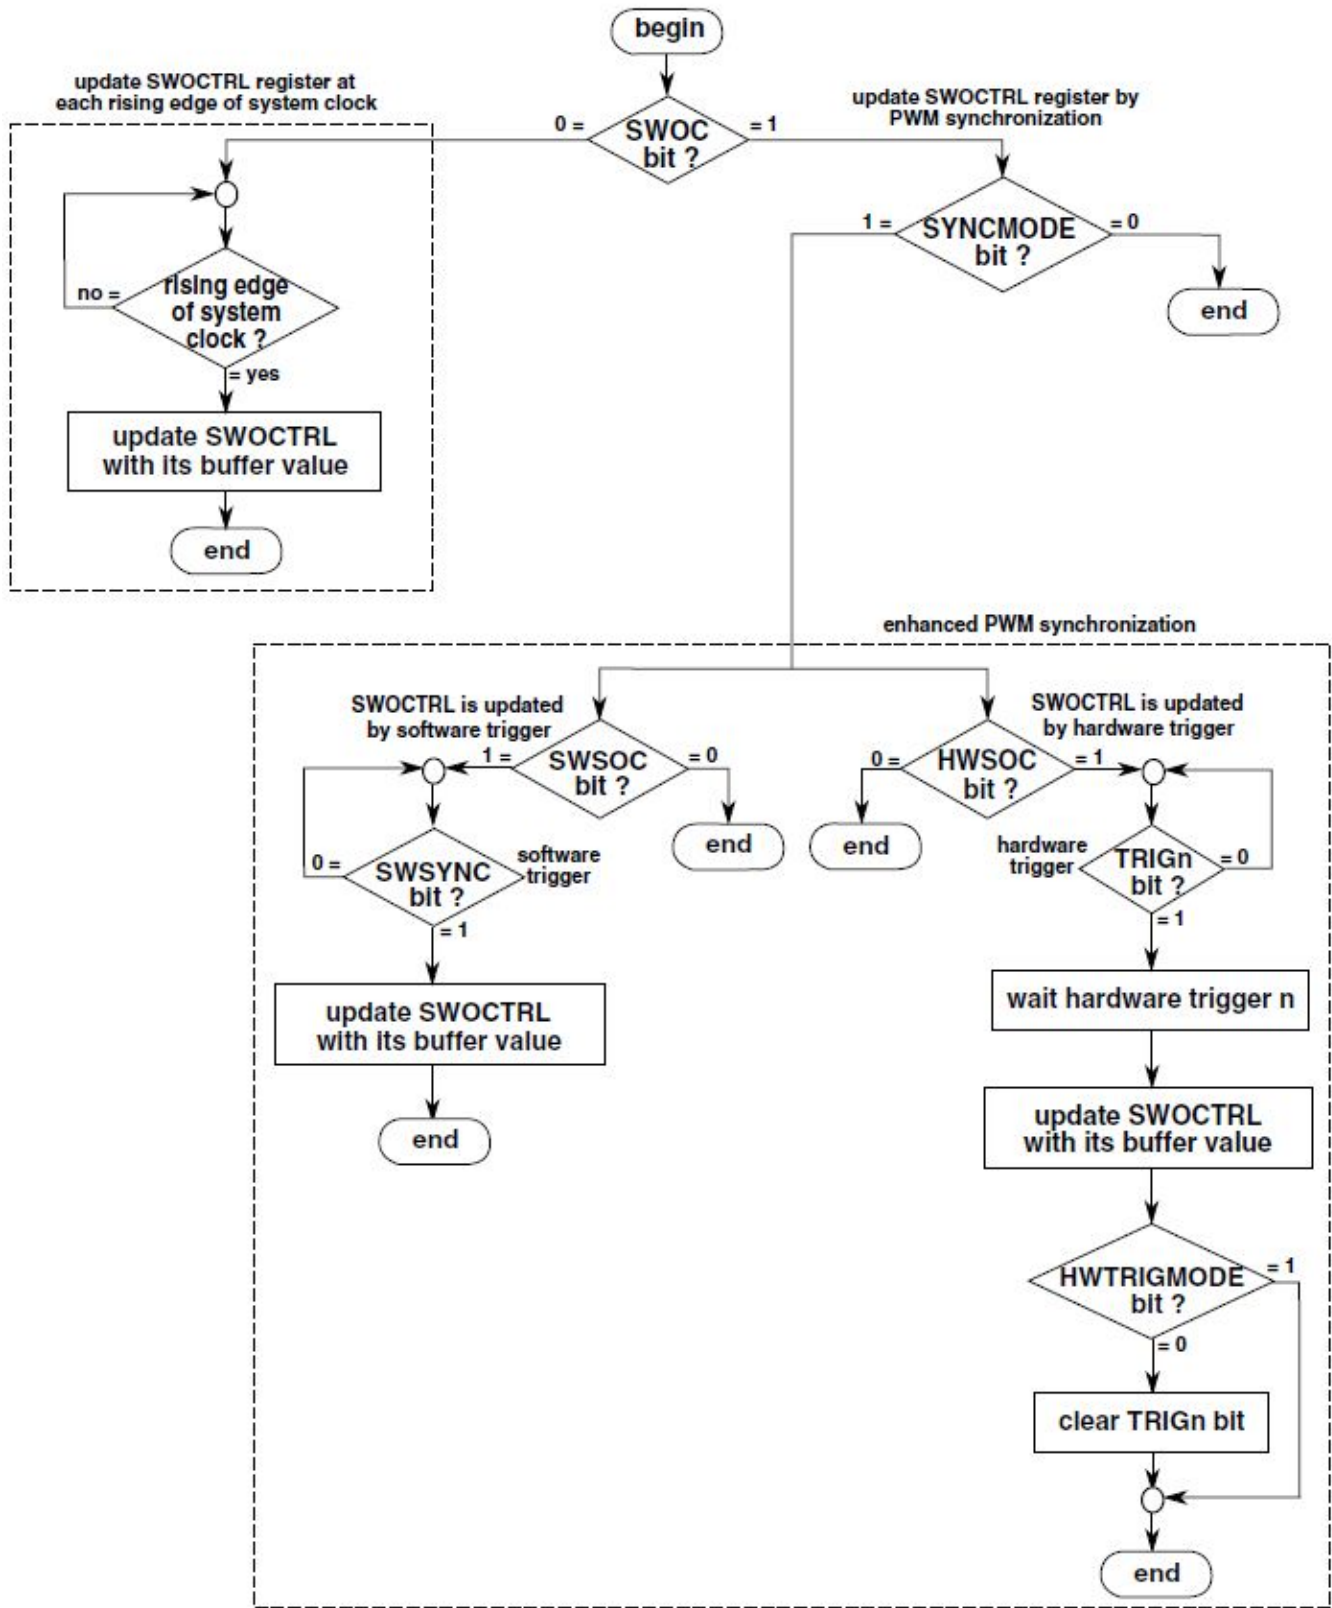

Figure 14. SWOCTRL register synchronization flowchart
- by the Enhanced PWM Synchronization when $\text{SYNCONF}[\text{SWOC}] = 1$ and $\text{SYNCONF}[\text{SYNCMODE}] = 1$, according to the flowchart shown in Figure 14.